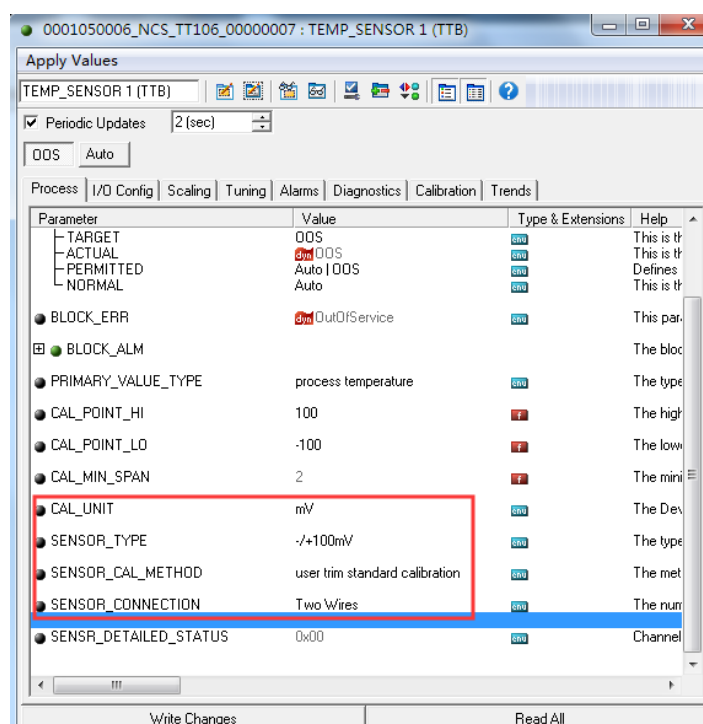

Figure 3.8 Two-point linearization calibration configuration diagram
(1) Set the TEMP_SENSOR1 MODE parameter of the transducer block to OOS, and set the SENSOR_TYPE parameter to $\pm 100\text{mV}$. Set the calibration unit parameter CAL_UNIT to mV according to the sensor type, and set the parameter SENSOR_CAL_METHOD to "User Trim Standard Calibration". The setting diagram is shown in Figure 3.8 below.